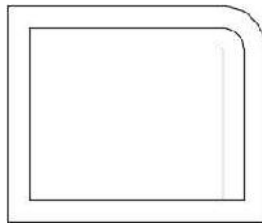

FIGURE 2.27: Offsetting the first line of the opening
2. Pick a point inside the vertical line on the right, and then pick a point to the left of this line. The line is offset, creating a new line 0.5 units to the left (see Figure 2.27).